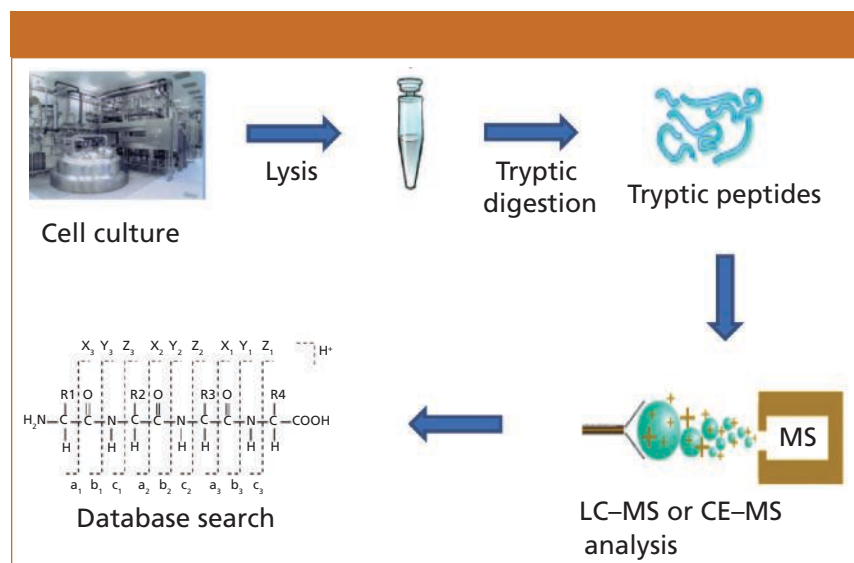

Figure 1: Workflow of the proteomic analysis of biologics or biosimilars.
However, even for the best mass spectrometers on the market, the use of separation methods (LC or CE) before the mass analysis is highly recommended to decrease the complexity of the sample entering the device (9), as shown in Figure 1. Pre-MS separation also increases the dynamic range and decreases ion suppression in mass spectrometry. One of the preferred separation modes is LC, typically using narrow-bore or capillary columns with packing particle sizes of 3–5 μm or lower (1.7 μm). The porosity of the stationary phase should match the size